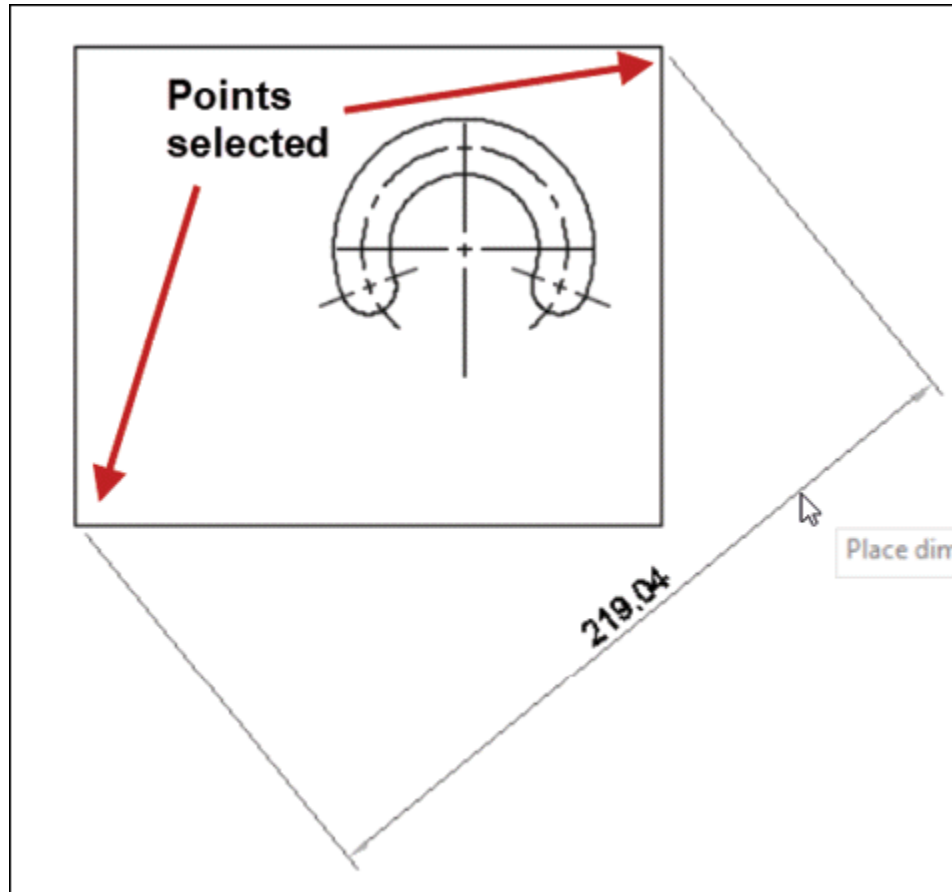

Figure-57. Placing Aligned dimension
- Click at desired two points. The distance dimension between two selected points will get attached to cursor; refer to Figure-57.